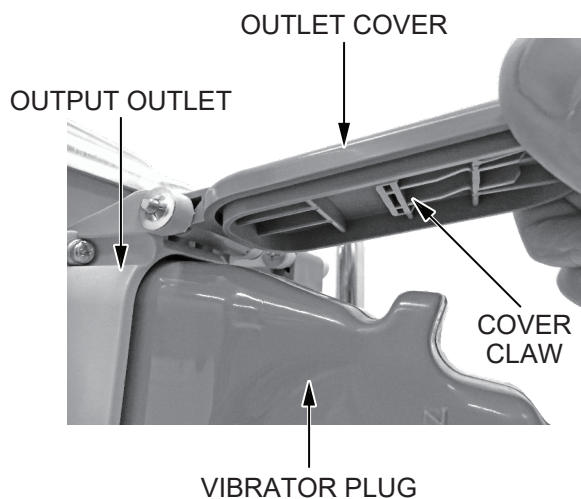

Figure 8. Disconnect Work Machine From Inverter
14. Raise the **output outlet cover** as shown in Figure 8 to disengage the **cover claw** from the **vibrator male plug**. Then unplug the vibrator from the **output outlet**.